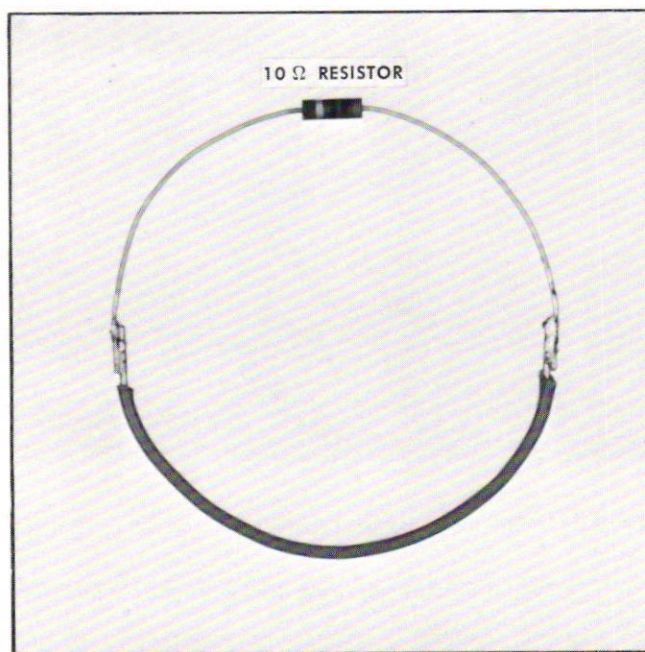

Fig. 6-8. 10 Ω closed loop.
b. Construct a 10 Ω closed loop, using a short piece of wire and a 10 Ω resistor. See Fig. 6-8.